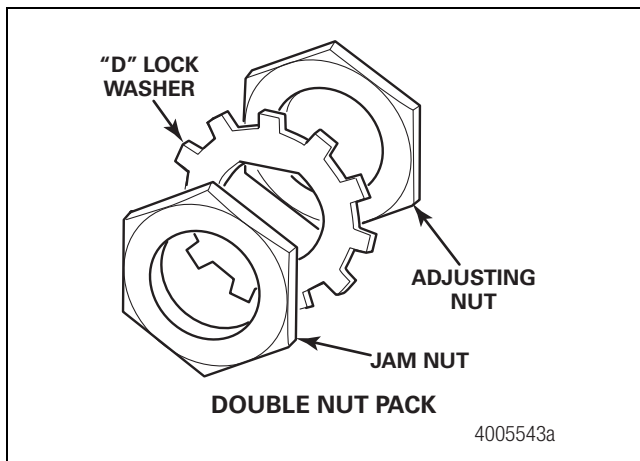

Figure 4.8
- Use a 3.5-inch (89 mm) socket wrench to remove the jam nut, "D" lock washer and adjusting nut. Figure 4.8.